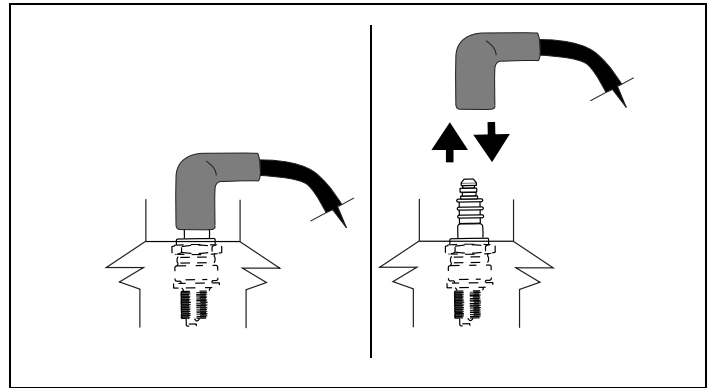

Figure 35. Disconnecting/Connecting Spark Plug
- Carefully disconnect spark plug wire and keep it away from spark plug. See Figures 35 and 36. See "G. Avoid Accidental Starts" instructions on page 2. Afterward, continue reading instructions below.